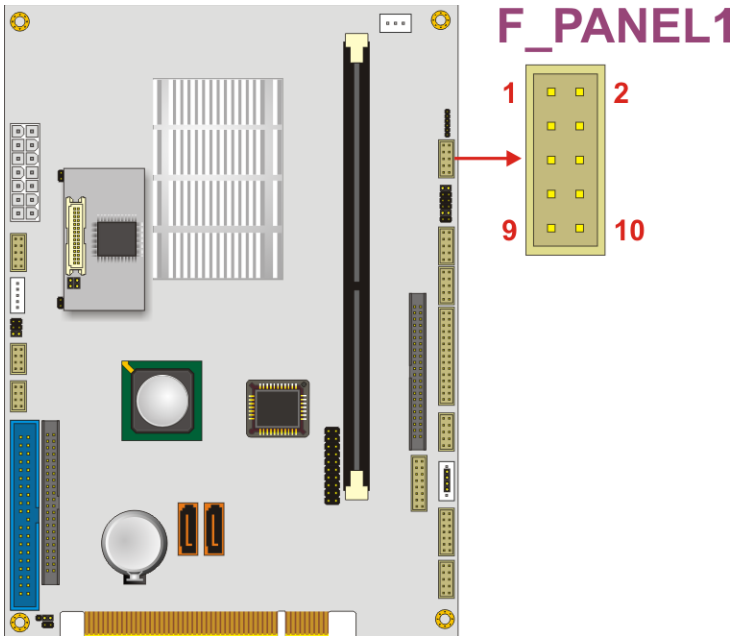

Figure 3-8: Front Panel Connector Location
- CN Location:** See Figure 3-8